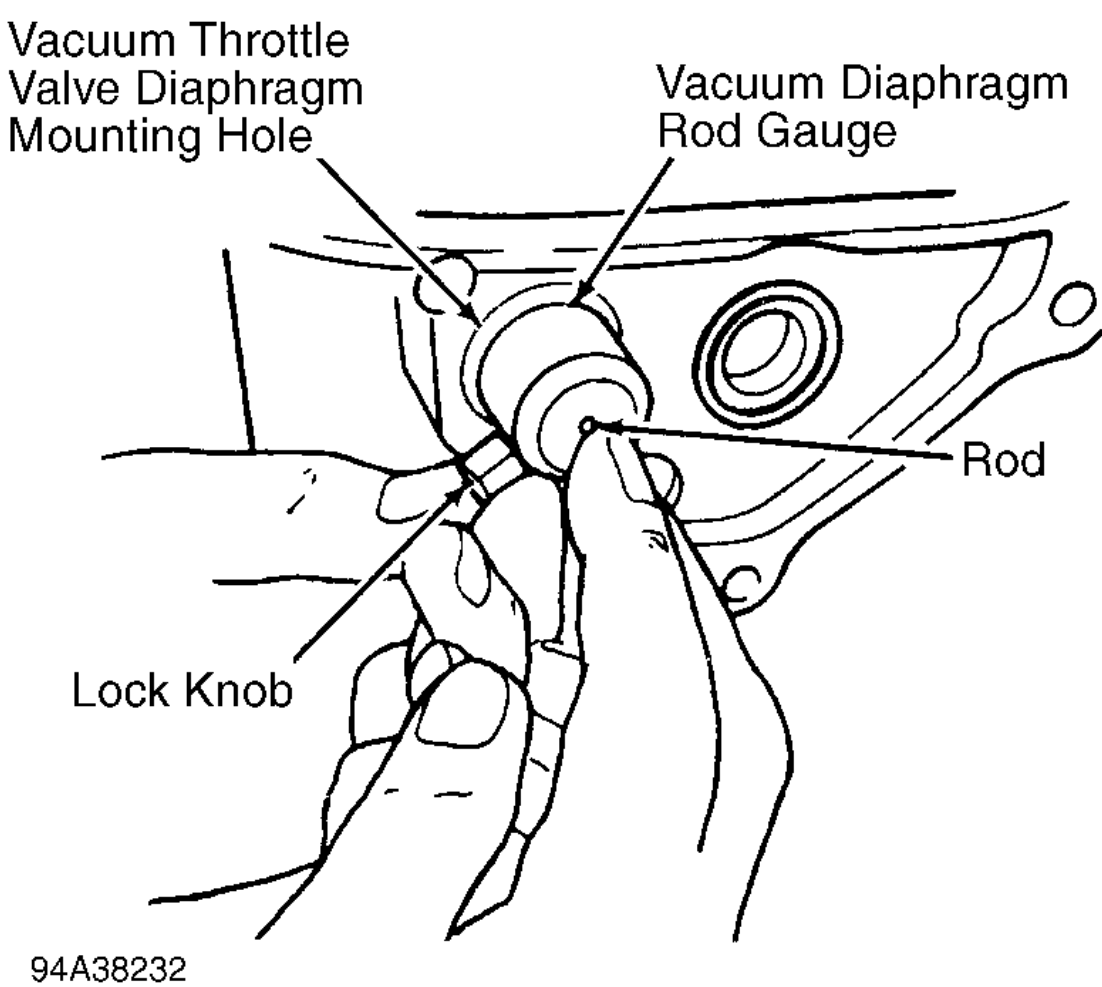

Fig. 3: Identifying Vacuum Diaphragm Rod Gauge
2. Place gauge rod through opening of gauge until rod bottoms out against vacuum throttle valve. Tighten lock knob on gauge and remove tool. Using depth gauge, measure distance from flat surface of gauge to end of rod. See **Fig. 3** . Select proper length throttle valve rod. See **THROTTLE VALVE ROD DIMENSION CHART** .